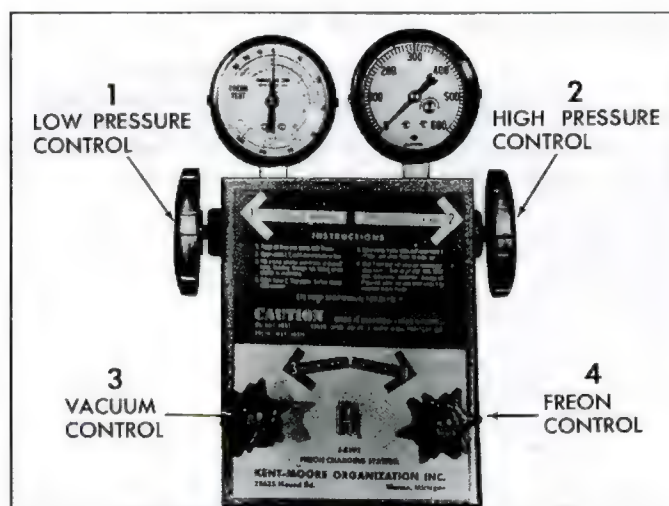

Fig. 22—Charging Station Controls
3. See Figure 22. Turn high pressure control (2) one turn counter-clockwise (open). Crack open low pressure control (1) and allow refrigerant gas to hiss from low pressure gauge line for three seconds, then connect low pressure gauge line to low pressure gauge fitting on compressor.
1. Install charging station as previously described. Refer to Figure 22 while performing the following operation.